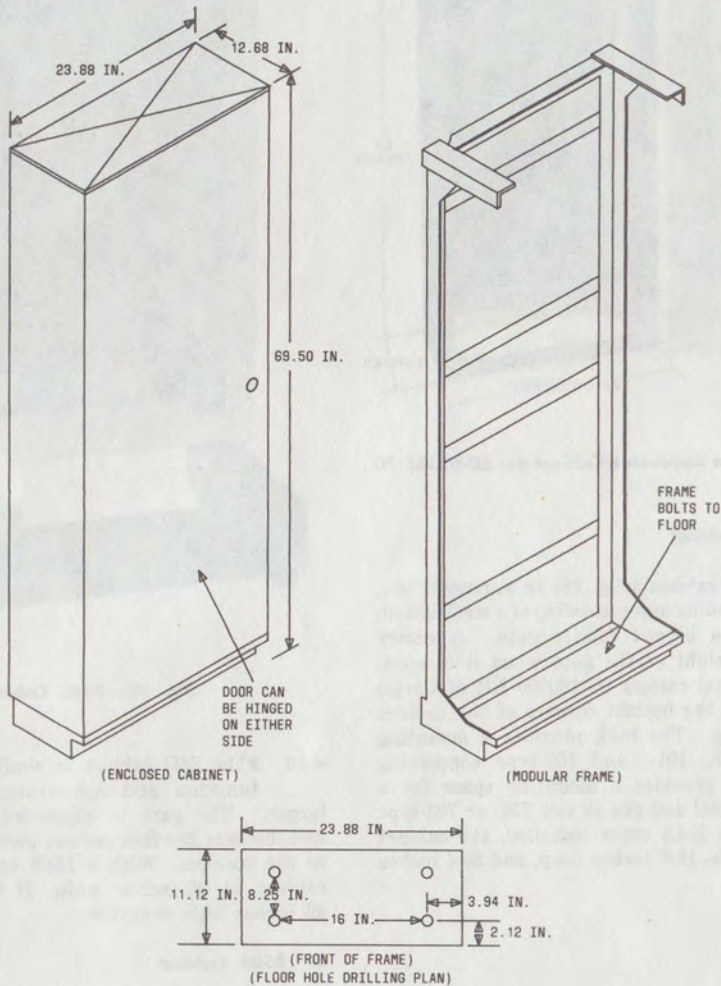

Fig. 19—50A Cabinet♦
4.11 The 50A cabinet (Fig. 19) is specifically intended for holding 188P-type terminal blocks and 188-type backboards in installations of the Customer Administered Terminal Move Service (CATMS) where wall mounting is not desired. It consists of a modular frame and optional front/rear doors, side panels, and top cover to convert the open frame to an enclosed cabinet. Two full-size terminal blocks and one backboard can be mounted in the 50A cabinet. It can be installed in free-standing